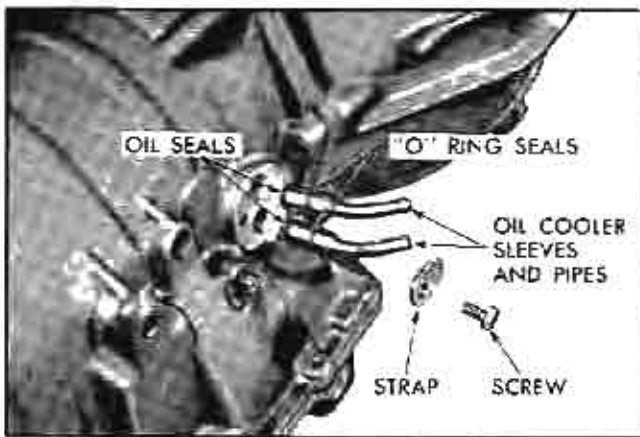

Fig. 177 Oil Cooler Sleeves and Seals
1. Assemble sleeve seals and "O" rings on oil cooler sleeves (Fig. 177).